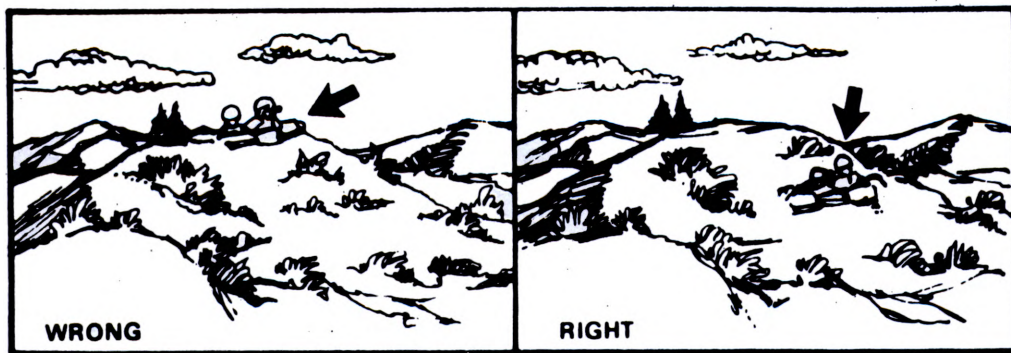

Figure 1
(1) Maximum observation of the desired area (specified by the platoon leader).
(2) Cover and concealment for the occupants of the OP.
(3) Concealed routes to and from the OP.
c. Usually, the best location for an OP is on or near the military crest of a hill. Topographical crests should be avoided because of the possibility of being skylined. It may be appropriate to establish the OP well down the forward slope when observation is restricted by the terrain (fig. 1).